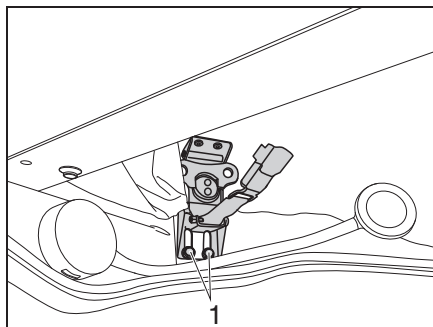

Fig. 48 Pop-up roof latches
- Loosen 2 screws (Fig. 48,1) on the latch.
- Use the handle to pull the pop-up roof downwards and simultaneously tighten the 2 screws (Fig. 48,1).